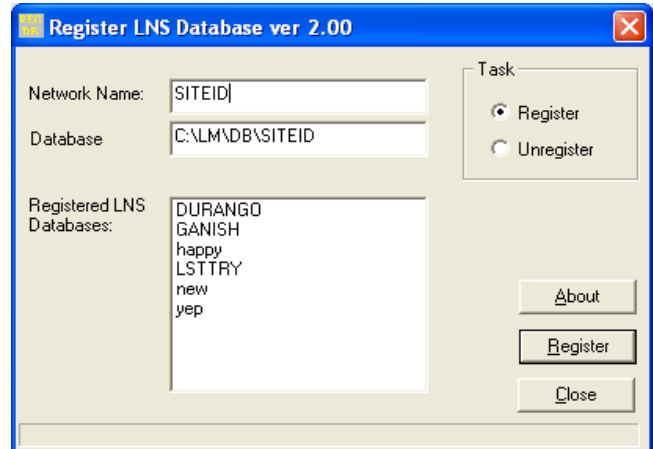

FIGURE 7-10. NETWORK DATABASE REGISTRATION WINDOW REGECHDB
2. Select **Start** → **Programs** → **PowerGeneration** → **PCW** → **RegEchDB**. The dialog box shown in Figure 7-10 is displayed.